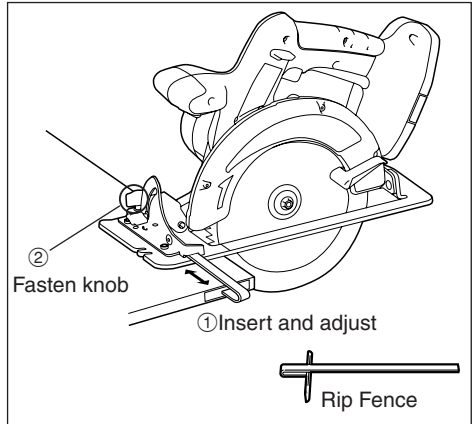

Fig. 8
- Insert rip fence and adjust cutting width. (See fig. 8)